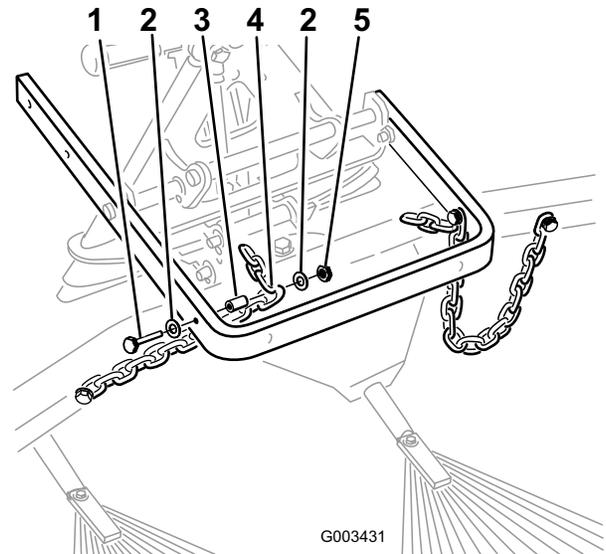

Figure 12
8. Secure the third link of each chain to the inside of the lift arm using a bolt (3/8 x 2-1/2 inches), 2 washers (3/8 x 7/8 inch), a spacer, and a locknut (3/8 inch) (Figure 12).